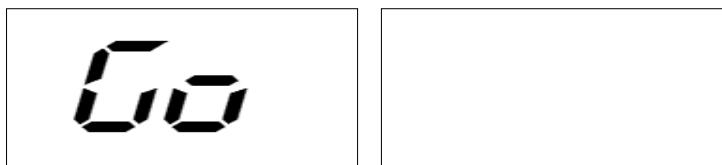

Fig. F5.5 Message "Start Rotation"
4) Press [P4]  to display the message shown in Fig. F5.5.